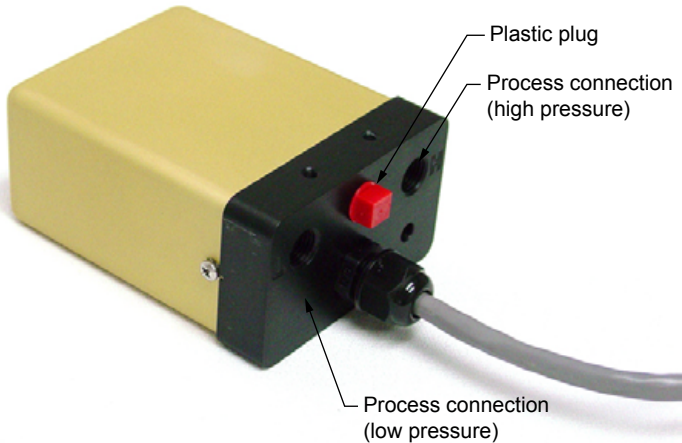

Figure B.3—CS60 sensor wiring and process connections
5. Remove the red plastic plug from the bottom of the integral sensor (as shown in Figure B.3, page B-3) and install the cord grip supplied in the sensor mounting hardware kit.